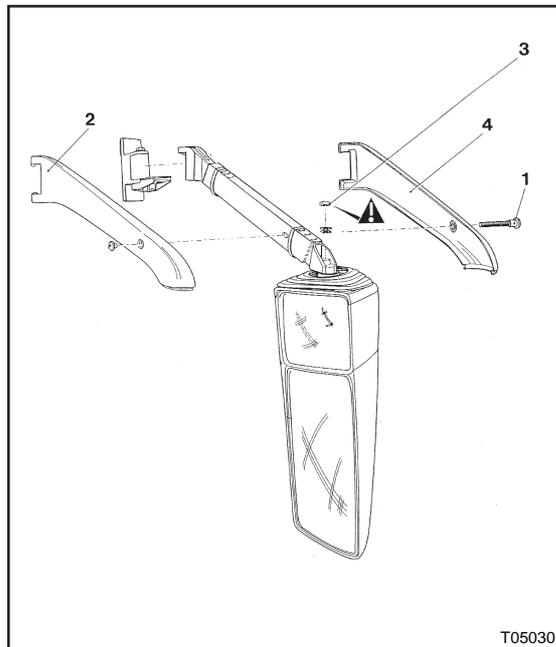

Figure 5: Support arm with mirror head and trim molding
1. Undo and remove the screw(s) (1, Figure 5) retaining the support arm trim molding halves (2 and 4, Figure 5).
2. Slacken the self-locking nut (3, Figure 5) securing the mirror head to the support arm.